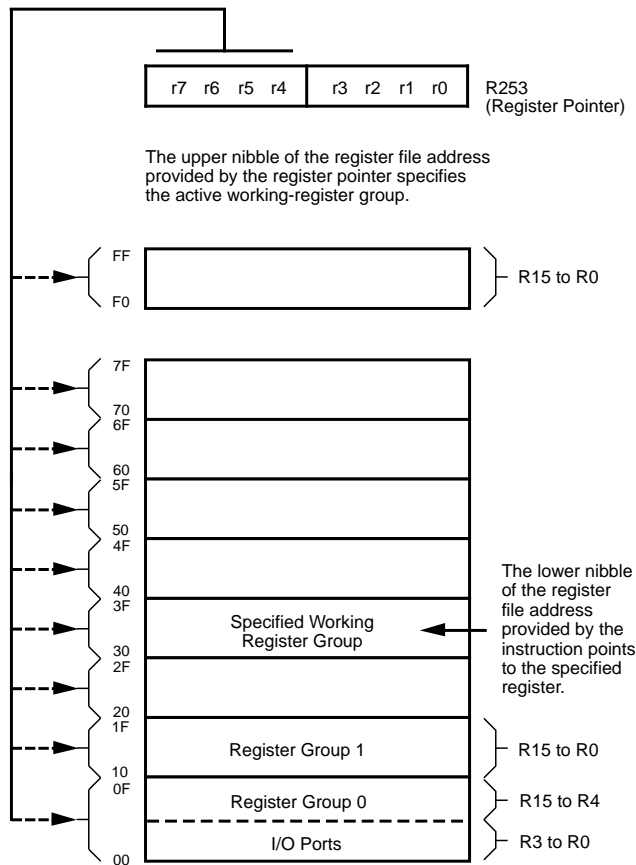

**Figure 12. Program Memory Map**
**Program Memory.** The Z8 addresses up to 512 bytes of internal program memory (Figure 12). The first 12 bytes of program memory are reserved for the interrupt vectors. These locations contain six 16-bit vectors that correspond to the six available interrupts. Bytes 0-511 are on-chip one-time programmable ROM.